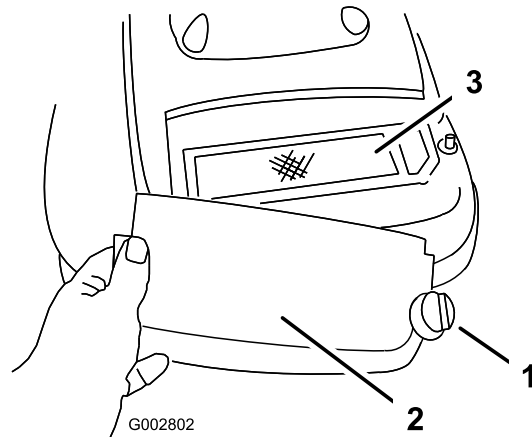

Figure 24
3. Remove the screw that secures the air cleaner cover (Figure 24).
4. Remove the cover and clean it thoroughly (Figure 24).